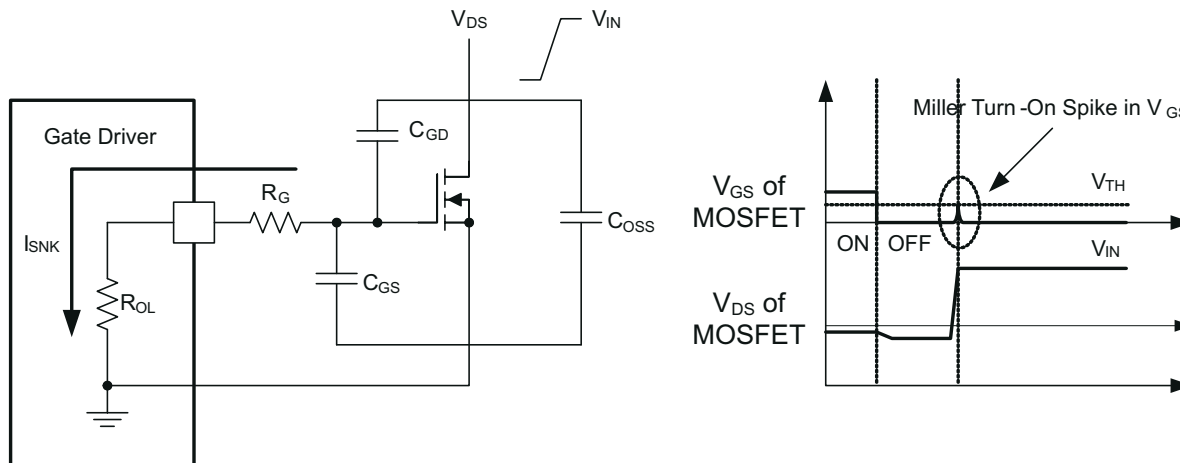

Figure 6-5. Low Pull-Down Impedance in UCC27614-Q1 (Output Stage Mitigates Miller Turnon Effect)
An example of a situation where Miller turnon is a concern is synchronous rectification (SR). In SR application, the dV/dt occurs on MOSFET drain when the MOSFET is already held in OFF state by the gate driver. The current charging the C_{GD} Miller capacitance during this high dV/dt is shunted by the pulldown stage of the driver. If the pulldown impedance is not low enough then a voltage spike can result in the V_{GS} of the MOSFET, which can result in spurious turnon. This phenomenon is illustrated in Figure 6-5.